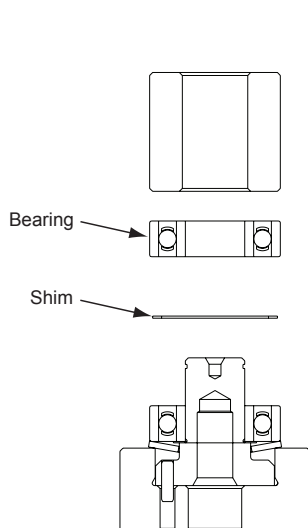

Figure 4
3. Place the Shim over the Spindle shaft and onto the face of the Bearing making sure it is on center. Press the (no seals/shields) Bearing down using the T-2B Spindle Bearing Pressing Tool Top, being careful to make sure the Shim is still centered on the vertical axis of the Spindle shaft and Bearing. See Figure 4. When the Spindle Assembly is done correctly, the Bearings will rotate freely but not loosely and the Shim can be moved but will not slide or move by gravity.